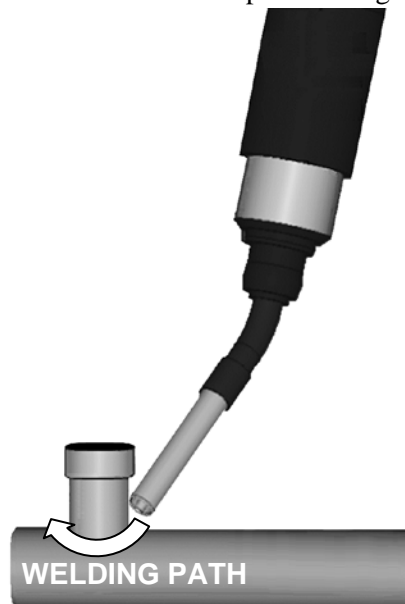

Fig. 4.3.5(h) Saddle-shaped welding, which is suitable for ORNT_BASE.
ORNT_BASE instruction is designed to improve the performance of circular motion with up-and-down on its path. This instruction is suitable for saddle-shaped welding shown in Fig. 4.3.5(h).
Without this instruction, tool orientation deviates between taught points as shown in “(A) Without ORNT_BASE instruction” in Fig. 4.3.5(i)